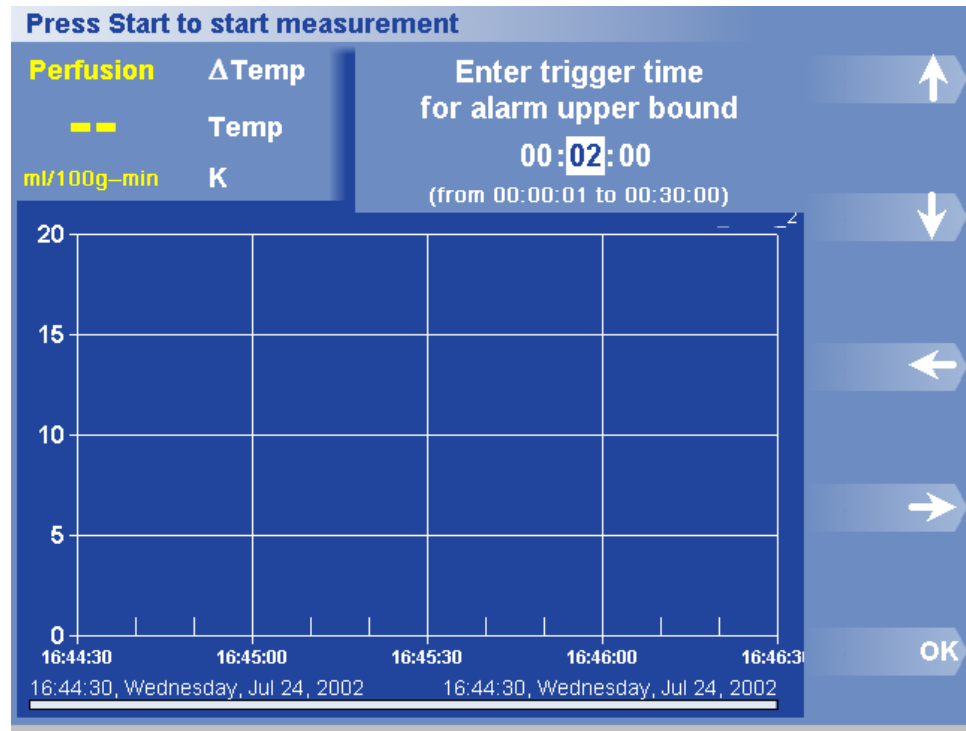

Figure 12. Alarm Upper Bound Trigger Time Dialog Box
1. Press Options > Set Alarm > Upper Bound > Trigger Time. The Enter Upper Trigger Time dialog box opens (Figure 12).